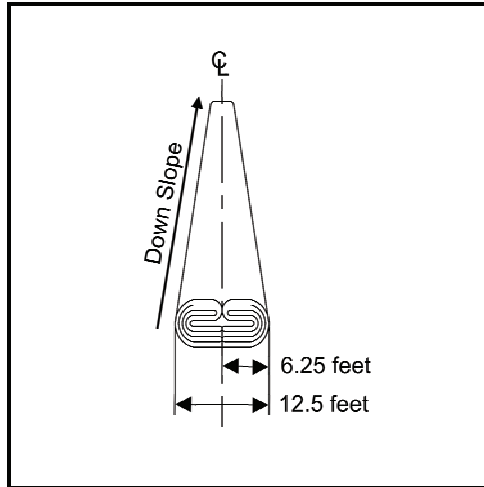

Figure 18. Final folded berm liner configuration.
5. Repeat steps 1- 4 for the opposite edge (Figure 18).